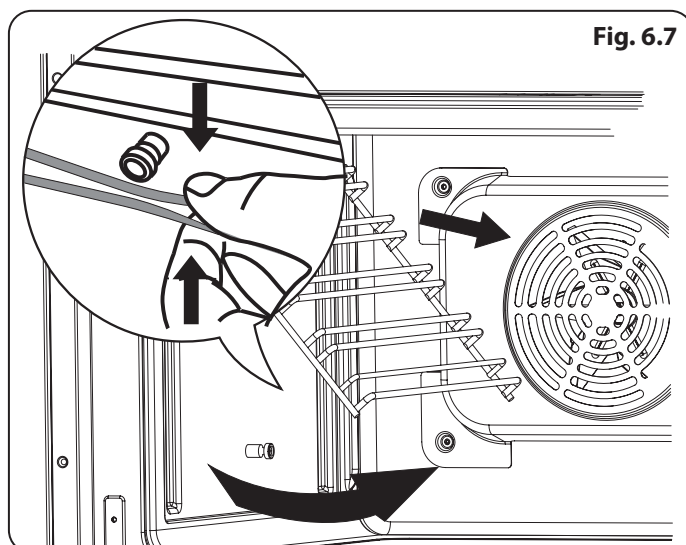

Fig. 6.7
3. Remove all shelves (**Fig. 6.7**).
4. Slightly squeeze the bottom two row of the runner under the screw (**Fig. 6.7**).
5. Whilst squeezing the bottom two row, pull the runner away from the side of the oven chamber (**Fig. 6.7**).